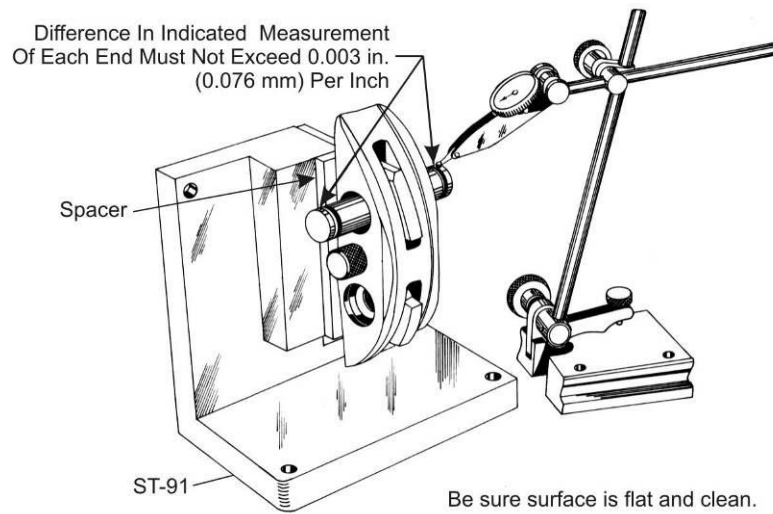

Figure 6
9. Install the gauging arbors P/N ST-91-3 through each of the finished bushings as shown in Figure 6.
10. Put the counterweight squareness gage ST-91 on a surface plate and measure both ends of each arbor as shown in Figure 6.